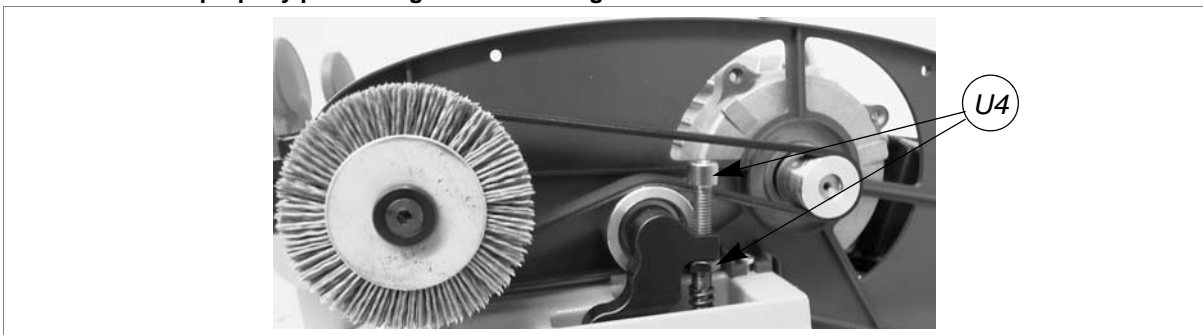

Fig. 34
- screw the screw/nut (U4) until the belt is properly tightened (fig.34).
- 15) Tighten the grub screw/nut (U4) until the belt is properly tightened (fig. 34, page 25).